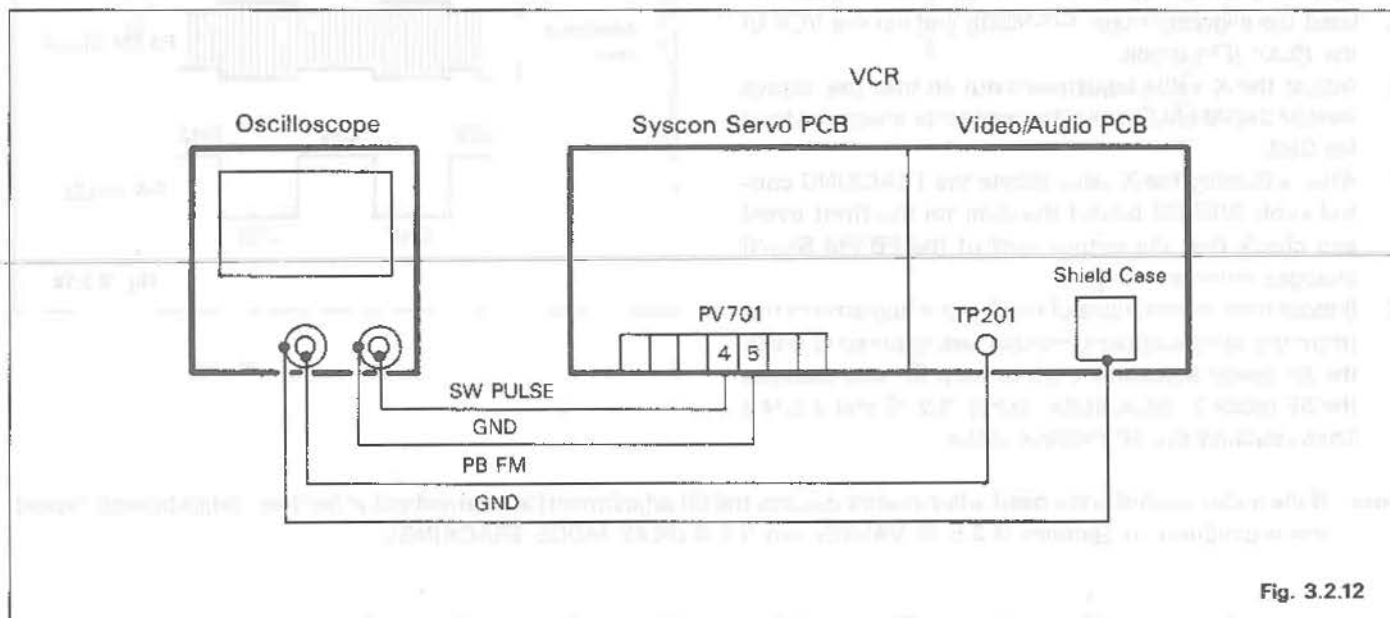

Fig. 3.2.12
1. Connect the oscilloscope to TP201 (PB FM) and the shield case (GND). (Refer to Fig. 3.2.12)
2. Connect the oscilloscope to pins 4 (SW PULSE) and 5 (GND) of PV701. (Refer to Fig. 3.2.12)